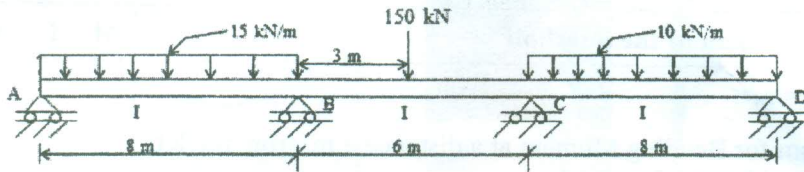

Fig.1
- b) Analyse the continuous beam shown in Fig.1 using flexibility method and draw BMD. 5 3 3 2